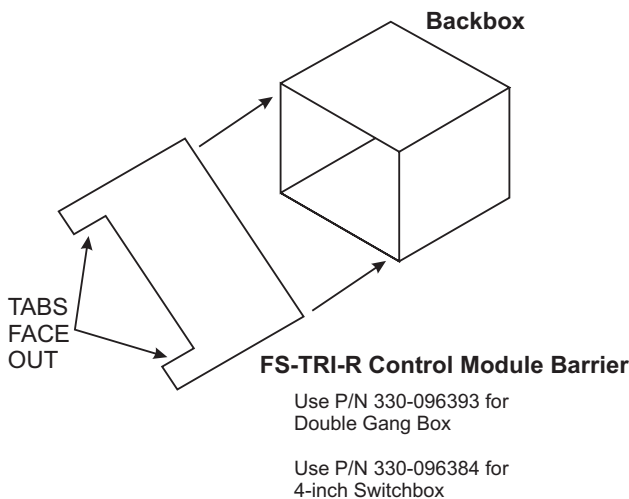

Figure 2
1. Plug the programming cable of the Faraday FS-FPI Programmer/Tester into the two-pin receptacle on the module. (See Figure 2 for location.)
The wiring barrier must be used when the FS-TRI-R relay contacts are connected to non-power limited wires. Install the barrier diagonally into the backbox to create two separate compartments within the backbox to separate the wires, as shown in Figure 2.